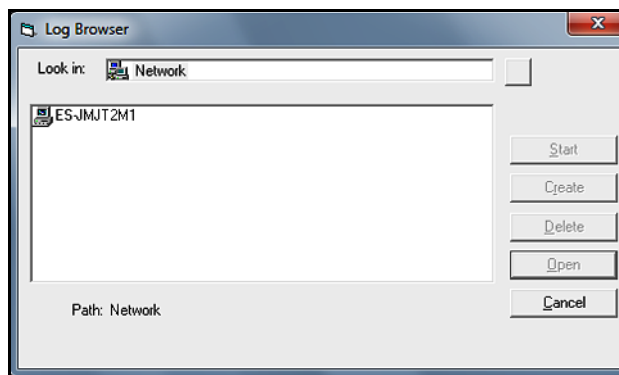

Figure 72: Computer Selection
1. Open the “Output” menu (see *Figure 61* on page 51), and click on “Logging” and then on the “Log Browser” option to open the dialog box shown in *Figure 72* below.